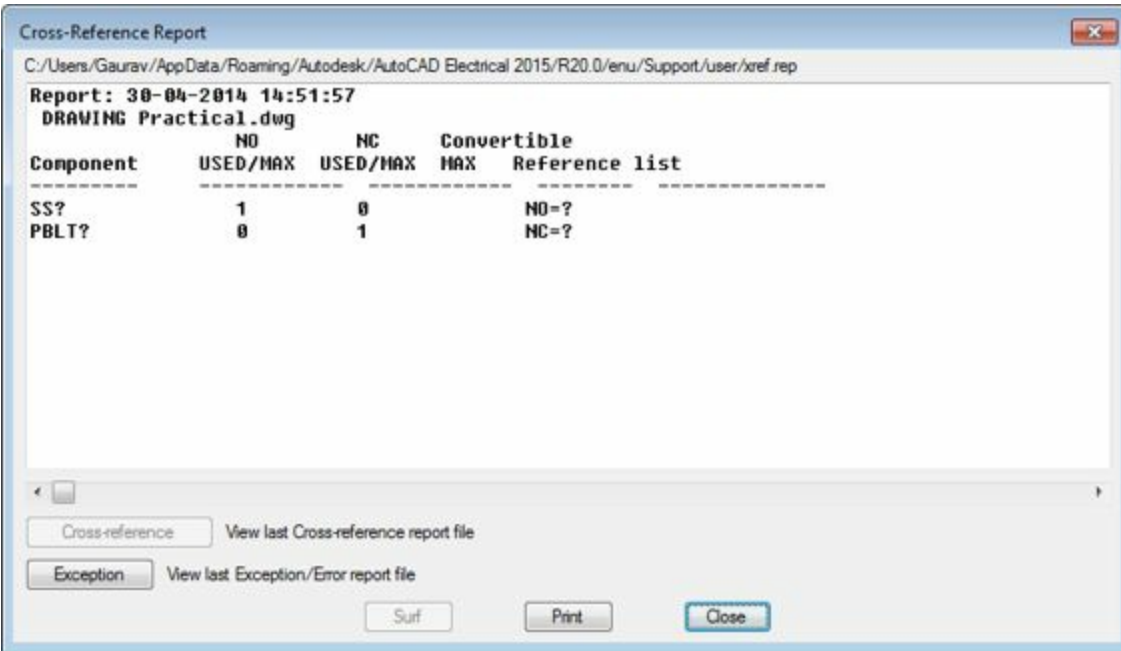

Figure-46. Cross Reference Report dialog box
- Click on the **Cross-reference** button from the dialog box. The **Cross-Reference Report** dialog box will be displayed; refer to Figure-46.